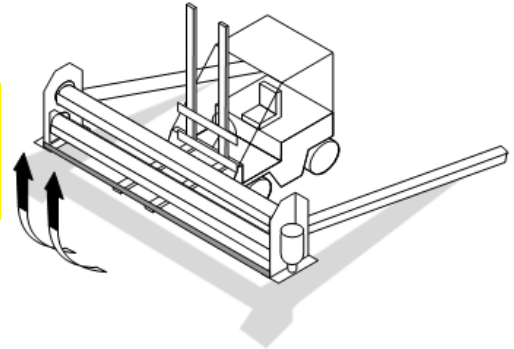

Figure 9: Tilting the Door
1. Lift the door with the forklift. The door will tilt to a vertical position as you lift the forks(Figure 9).